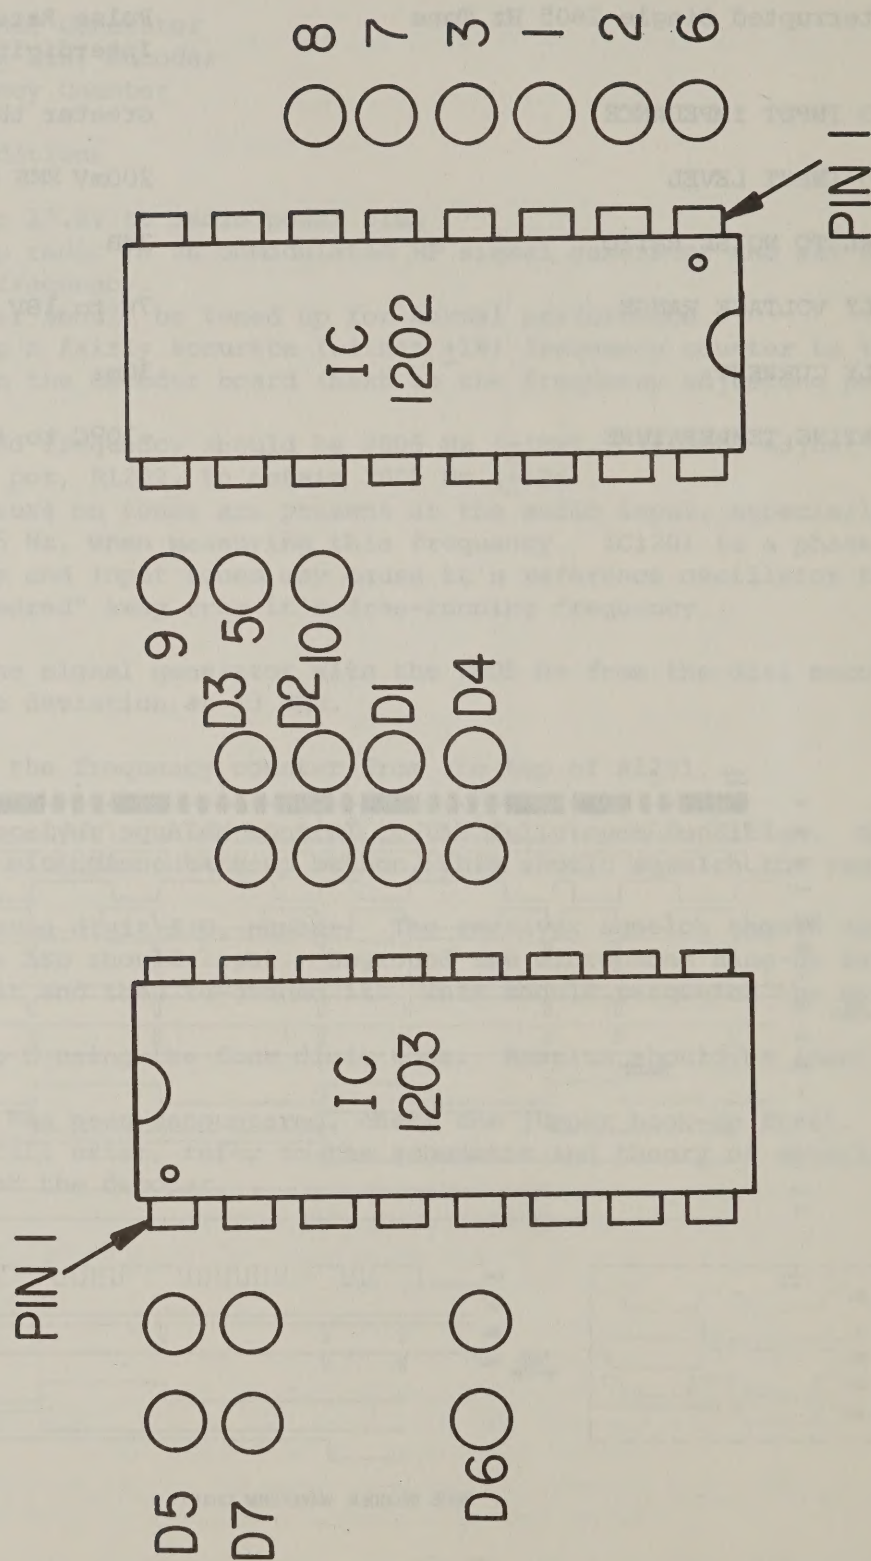

FIGURE 2
1. Referring to Figure 2, install identification (ID) number jumpers.
Referring to Figure 2: